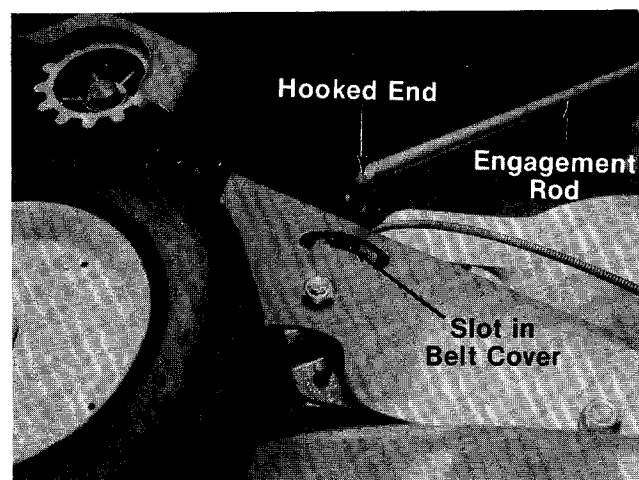

FIGURE 9.
15. Hook the end of engagement rod into idler bracket located inside slot on belt cover. See figure 9.